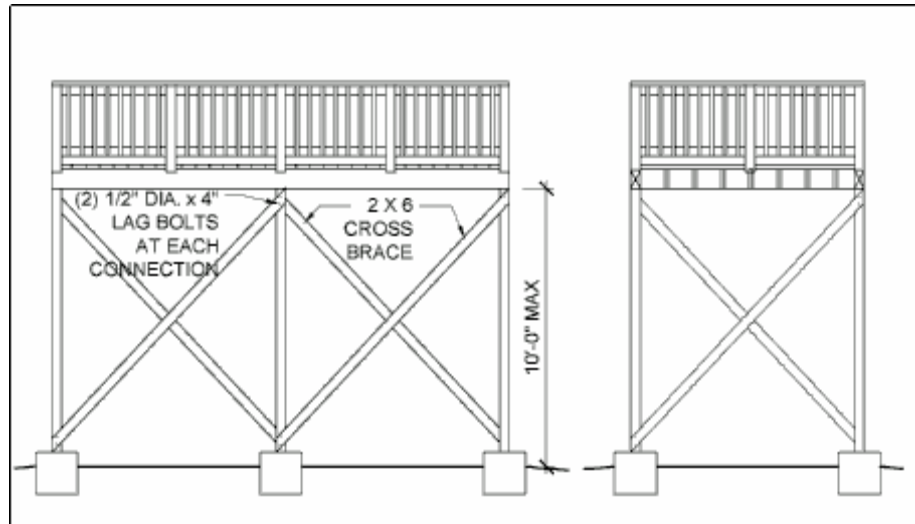
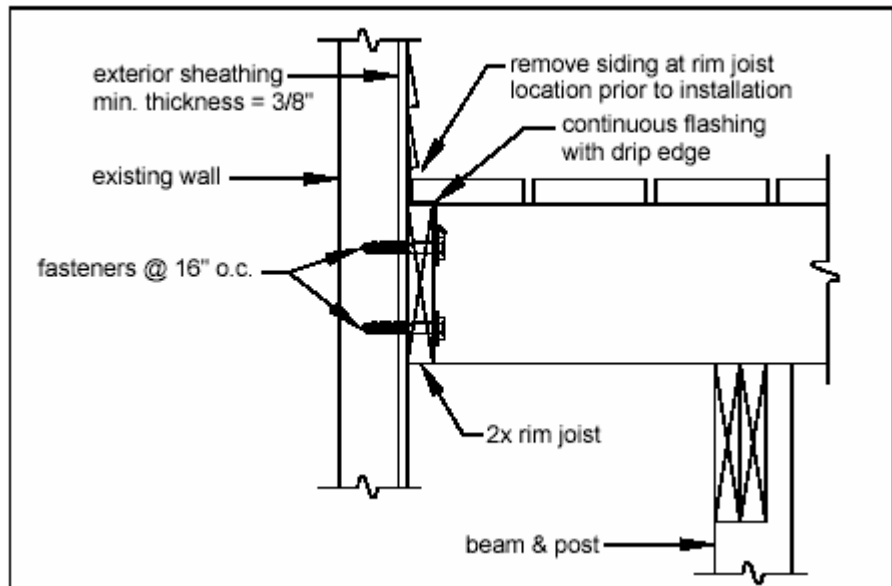

Figure 14 - Diagonal Bracing Requirements
Figure 15 - Attachment to House Lateral Support
8. See Figures 15 to 34 for bracing, connection, built-up beam, footing, guardrail, and stairway details.
Bracing: Provide diagonal cross bracing as shown in Figure 14. Bracing shall be located between posts parallel to beams and bolted by a minimum of two ½" diameter by 6" lag bolts or two ½" thru-bolts at each end to the posts as shown. Diagonal bracing shall also be located perpendicular
Lateral support is provided for one-half of the deck by the attachment of the deck rim joist to the existing house as shown in Figure 15 (the beams and posts furthest from the house still require the diagonal bracing as shown in Figure 14). The existing exterior wall must have sheathing consisting of structural wood panels with a minimum thickness of $\frac{3}{8}$ ", and the fasteners shall attach to an existing band board or wall stud. The deck rim joist may also attach to a concrete wall, but not to a brick veneer. **You must verify this condition in the field prior to utilizing this method.** Fasteners shall be 16" on center and must penetrate existing wall studs. See also the provisions noted on page 11. Flashing over the rim joist is required and must be installed in accordance with the flashing provisions noted on page 9.